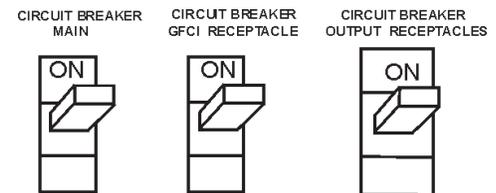

Figure 59. Main and GFCI Circuit Breakers
16. Turn the MAIN, GFCI and LOAD circuit breakers to their ON position (Figure 59).